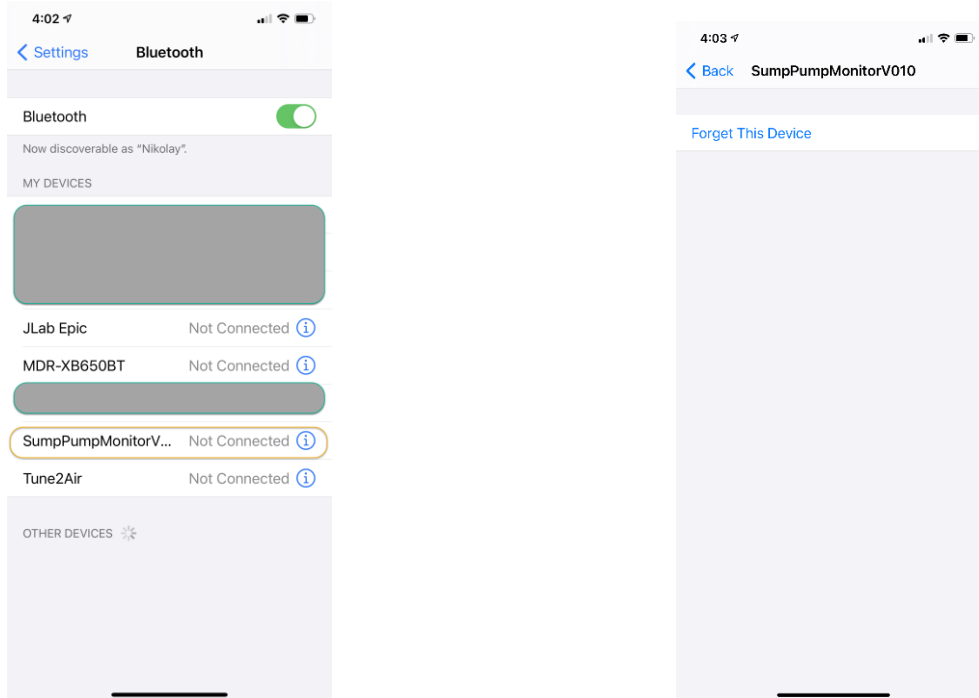

Figure 2 Screenshot Example
1. If you have previously paired any SPM-010 device, go to Settings>Bluetooth and remove it from list (see Figure 2) by using Forget This Device option